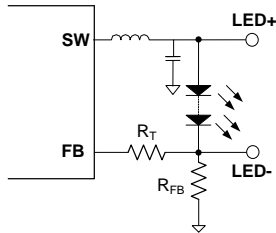

Figure 4: Feedback Network
The output current is set by the external resistor R_{FB} (see Figure 4). Feedback reference voltage is 0.2V, I_{LED} is then given by Equation (1):